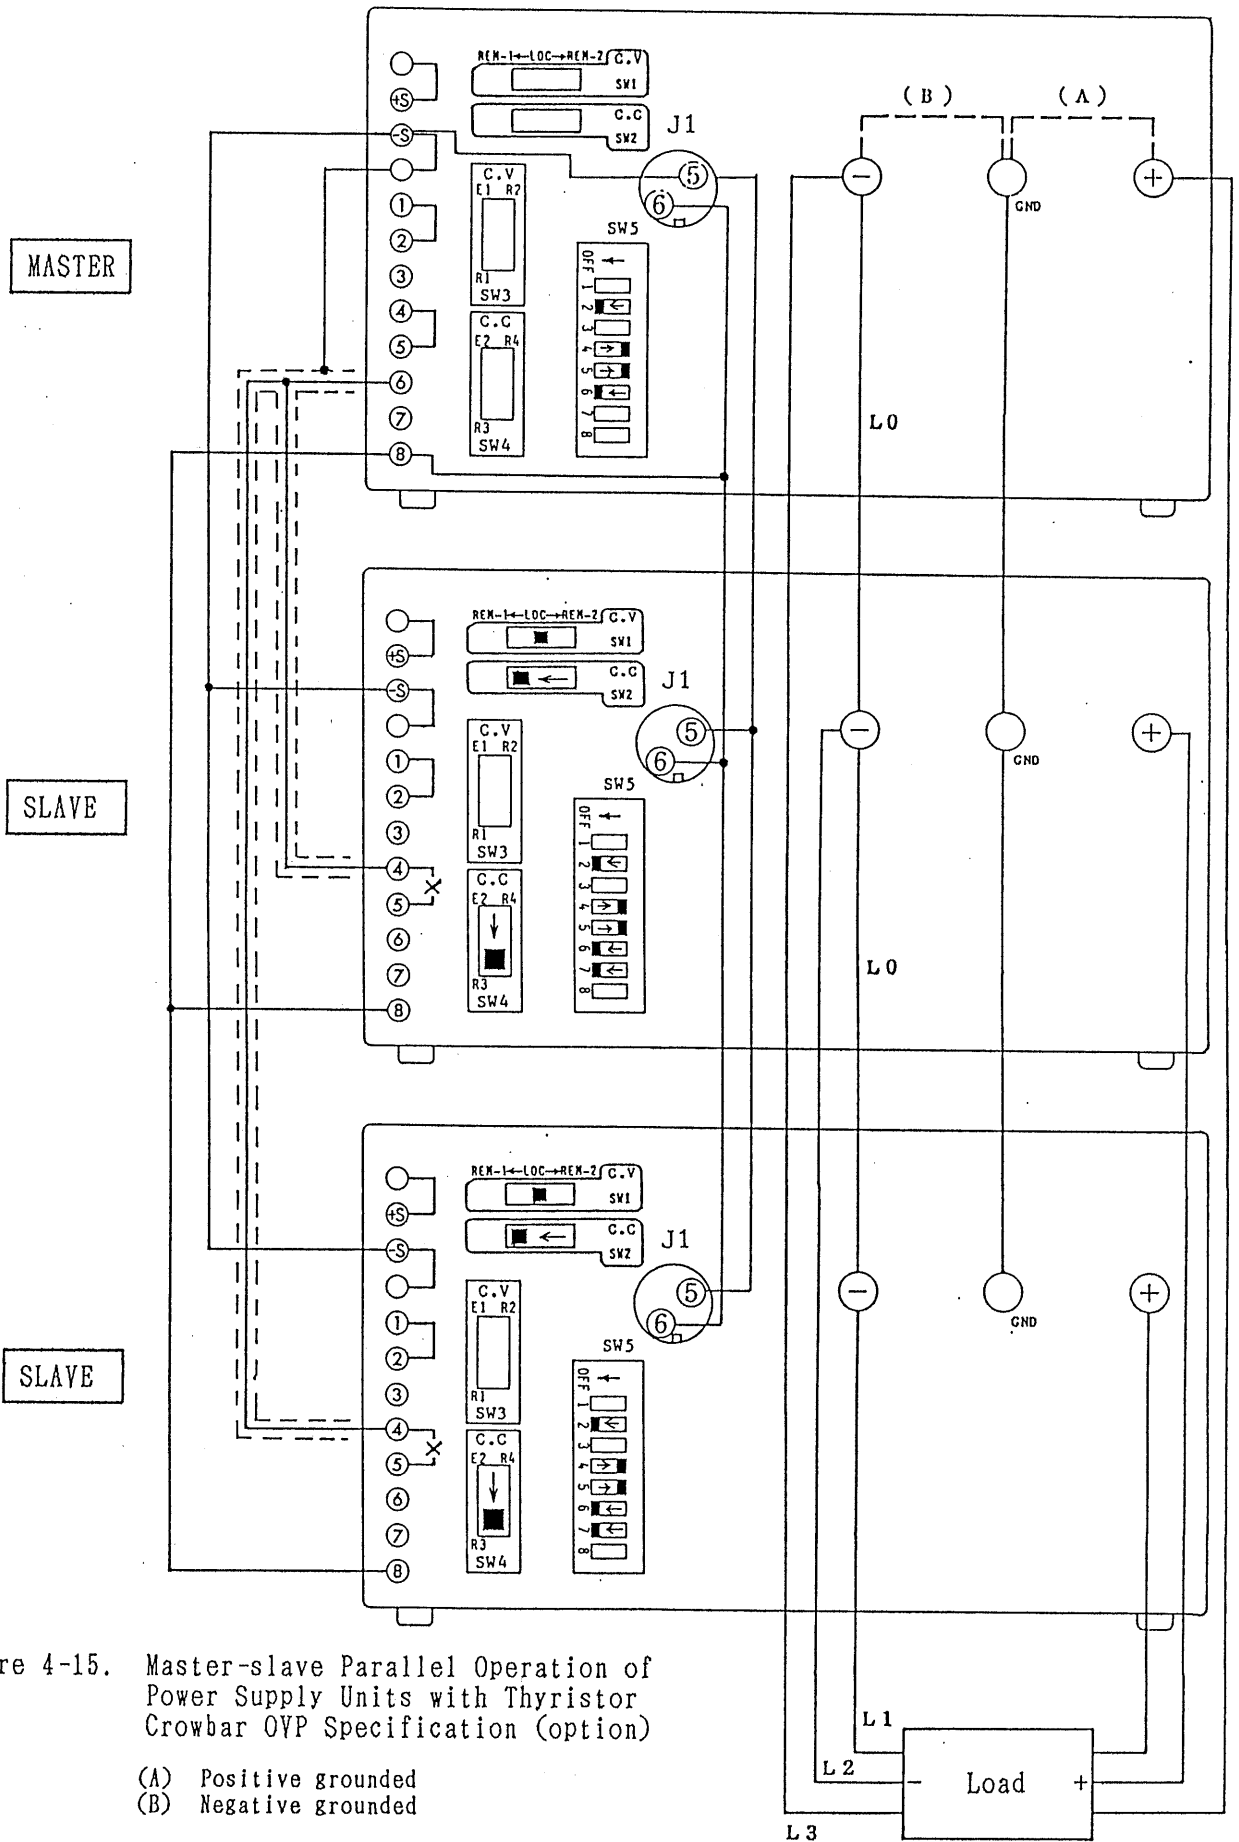

Figure 4-15. Master-slave Parallel Operation of Power Supply Units with Thyristor Crowbar OVP Specification (option)
- (8) Connect in parallel the DIN connector (J1) pins 5 of all units as shown in Figure 4-15.
- (9) Connect in parallel the DIN connector (J1) pins 6 of all units as shown in Figure 4-15.
- (10) Connect in parallel the terminals ⑦ of the rear terminal blocks of all units as shown in Figure 4-15.
- (11) Connect in parallel the ⊕ terminals of the rear terminal blocks of all units as shown in Figure 4-15.
- (12) Connect the DIN connector (J1) pin 5 of the master unit to the ⊕ terminal of the rear terminal block.
- (13) Connect the DIN connector (J1) pin 6 of the master unit to terminal ⑦ of the rear terminal block.
- (14) Turn fully counterclockwise the voltage setting knob of each slave unit.
- (15) For the remote sensing mode or the remote control mode of operation, control the master unit alone.
- (16) For the remote sensing mode of operation, connect in parallel the ⊕ and ⊕ terminals of units and disconnect their jumper wires from between terminals ⊕ and ⊕ and between ⊕ and ⊖ terminals.
- (17) Regarding the switches for which no settings are specified in Figure 4-15, set them to the standard states as shown in Figure 2-25 (See Section 2.4.) or to appropriate states for respective modes (See Sections 4.1 through 4.11.).
- (11) Connect in parallel the DIN connector (J1) pins 5 of all units as shown in Figure 4-15.
- (12) Connect in parallel the DIN connector (J1) pins 6 of all units as shown in Figure 4-15.
- (13) Connect in parallel the terminals ⑧ of the rear terminal blocks of all units as shown in Figure 4-15.
- (14) Connect in parallel the ⑨ terminals of the rear terminal blocks of all units as shown in Figure 4-15.
- (15) Connect the DIN connector (J1) pin 5 of the master unit to the ⑩ terminal of the rear terminal block.
- (16) Connect the DIN connector (J1) pin 6 of the master unit to terminal ⑪ of the rear terminal block.
- (17) Turn fully clockwise the voltage getting knob of each slave unit.
- (18) For the remote control mode of operation, control the master unit alone.
- (19) For the remote sensing mode of operation, connect in parallel the ⑫ and ⑬ terminals of units and disconnect their jumper wires from between terminals ⑭ and ⑮ and between ⑯ and ⑰ terminals.
- (20) Regarding the switches for which no settings are specified in Figure 4-15, set them to the standard states as shown in Figure 2-25 (See Section 2.4.) or to appropriate states for respective modes (See Sections 4.1 through 4.11.).